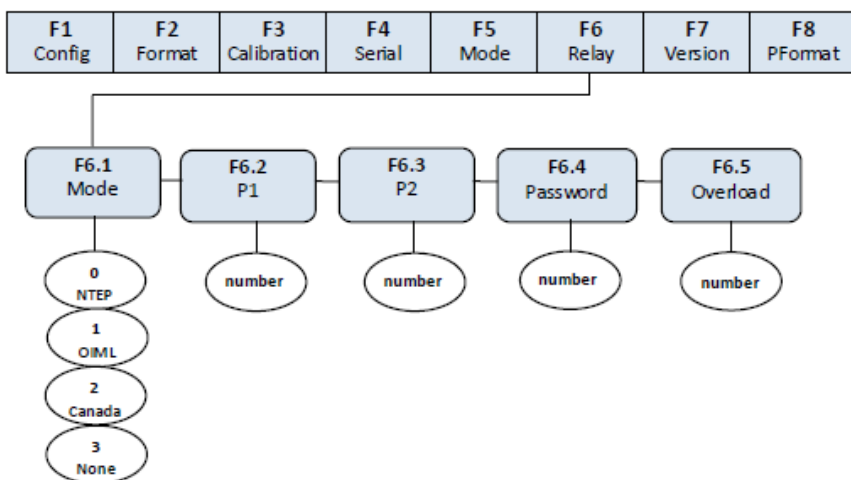

Fig. 12.1 Relay Output Menu
- (1) Turn on the SW2 switch to set indicator to the Configuration mode (display shows "F1").
- (2) Press  until display shows "F6" (see Fig. 12.1). Press  to go to